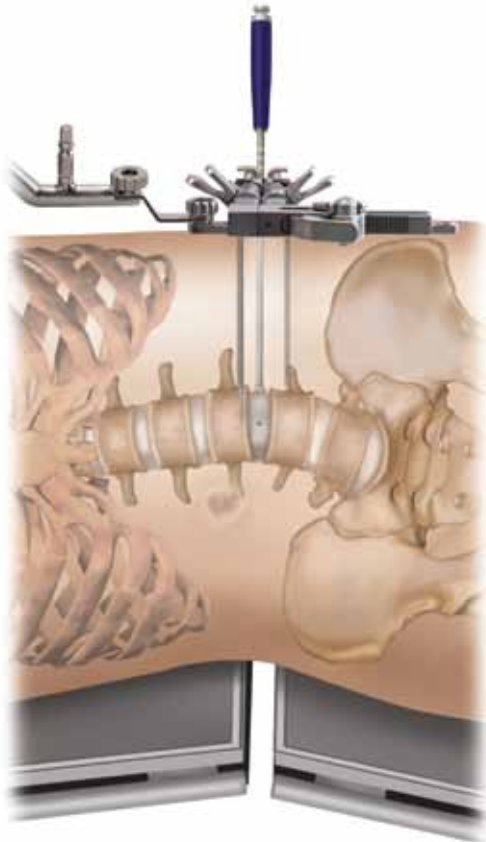

Figure 36
Step 2 The Trial is passed through the Retractor and impacted into the disc space. A properly sized Trial should be centered with the spinous process and span the ring apophysis in order to reach fully across the vertebral body end plate (Figures 36 and 37).